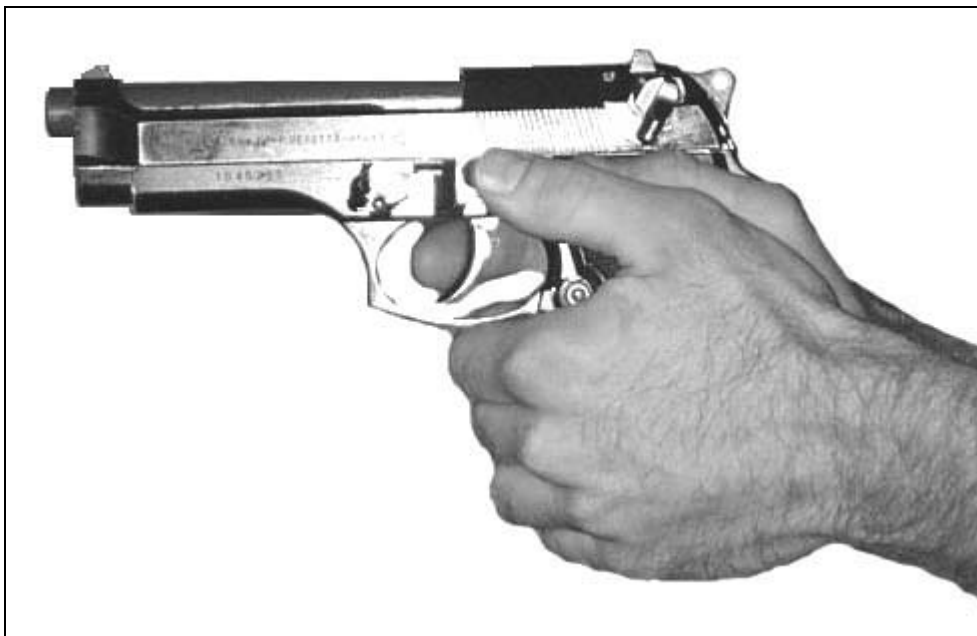

Figure 2-2. Fist grip.
(1) ***Fist Grip.*** Grip the weapon as with the one-hand grip. Firmly close the fingers of the nonfiring hand over the fingers of the firing hand, ensuring that the index finger from the nonfiring hand is between the middle finger of the firing hand and the trigger guard. Place the nonfiring thumb alongside the firing thumb (Figure 2-2).